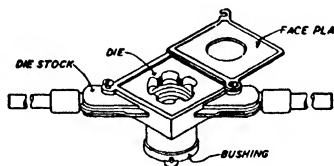

Fig. 9. Die Stock
**Die and Die-Stock.** These are of two general types, the solid stock and the adjustable or receding die stock. In the solid type we have a single block of steel, as shown in Fig. 8, which carries the thread-cutting teeth. These dies are held in a stock, Fig. 9, having two handles of suitable length. On the side opposite from the die there is an extension of the body of the stock, for holding the bushing or "guide," to align the stock and die with the axis of the conduit, so the thread will be cut straight. With this type of stock, Figs. 9 and 10, the die and guide must be changed for each conduit size. A stock with adjustable guides is made, which, by pushing a lever about